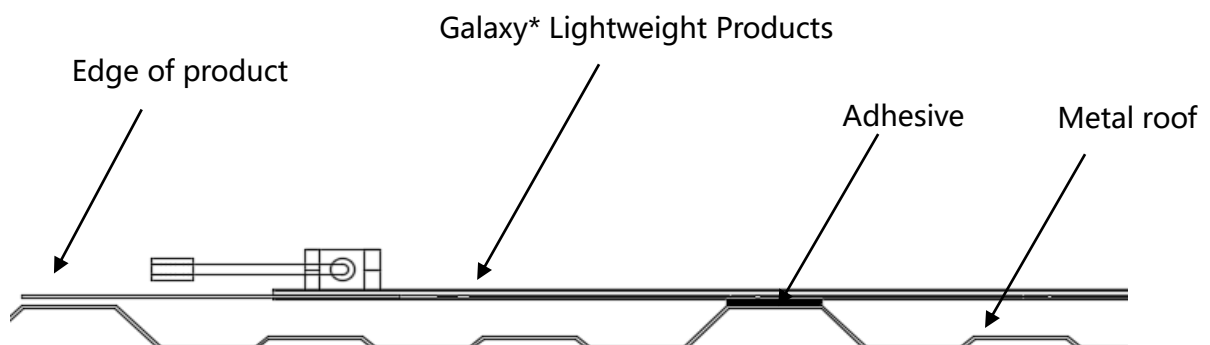

Figure 1
- Place the product cell side up to the adhesive area (Figure 1)